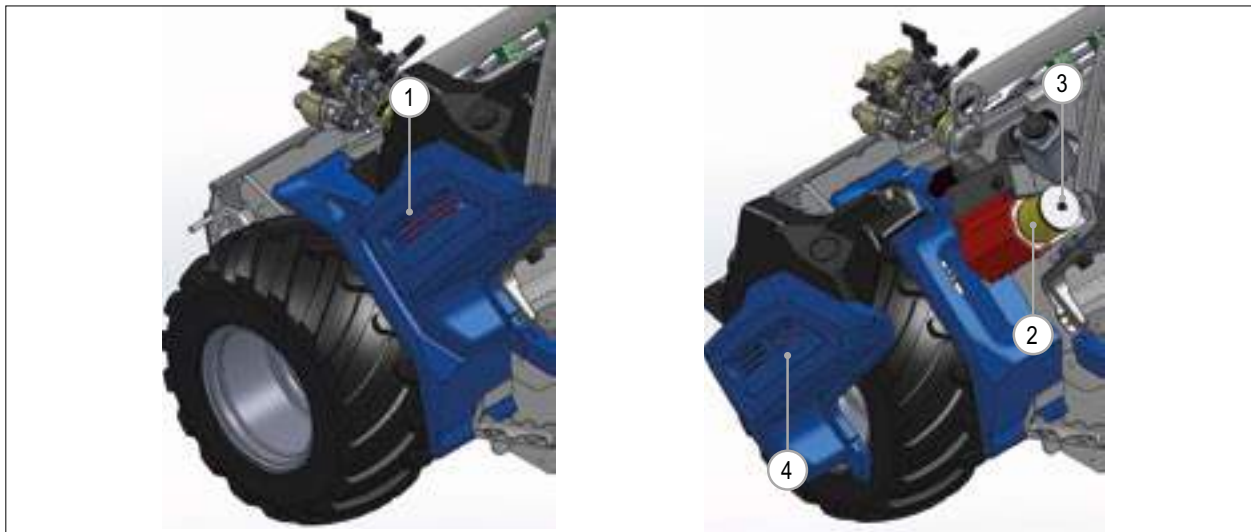

FIG. 44
- 2) Remove the left panel (FIG. 44 - Rif. 1) by loosening the screws that secure it to the frame.
- 3) Remove the air filter (FIG. 44 - Rif. 2) by loosening the screw that secure it (FIG. 44 - Rif. 3).
- 6) Reinstall the left panel (FIG. 44 - Rif. 4) and secure it with the screws.